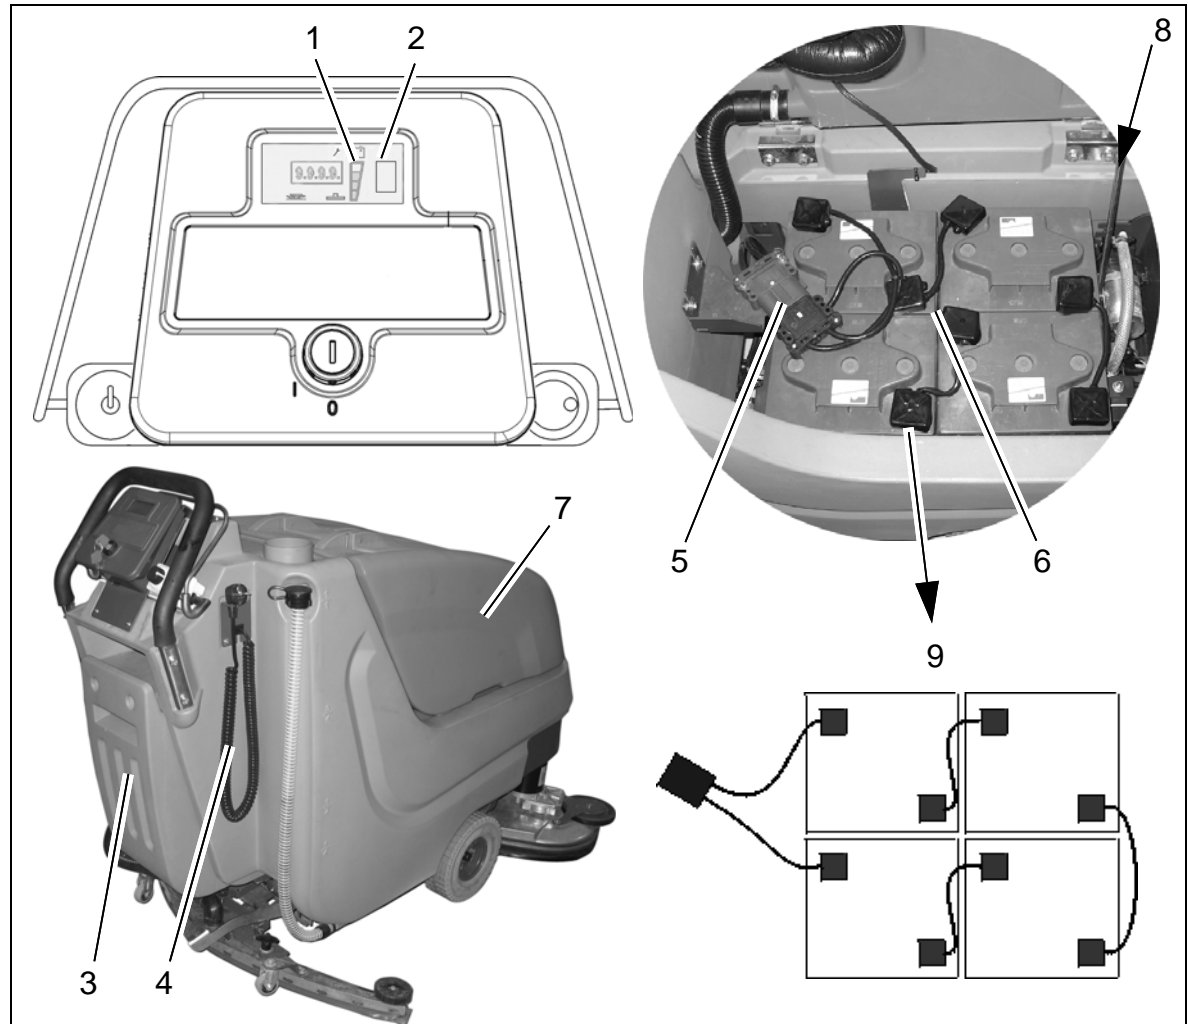

Fig.7
Use the integrated battery charger (Fig. 7/3) to charge batteries. Proceed to connection of the charger by means of the mains cable (Fig. 7/4) with safety plug. Charging batteries is recommended if at least one bar of the LDS display has extinguished after operation of the machine. On this behalf you are requested to observe the operating instructions of the charger 88-60-2723 as well as the operating instructions of the battery manufacturer. In case it is intended to change the type of battery the charger has to be adjusted only by PowerBoss contract workshops.
3. Open empty recovery tank (Fig. 7/7) and secure by support (Fig. 7/8).
4. Disconnect battery connector (Fig. 7/5).
2. Open empty recovery tank (Fig. 7/7) and secure by support (Fig. 7/8).
4. Connect battery poles and enclosed connecting cables according to wiring diagram (Fig. 7/9). Provide for tight fitting and grease poles.